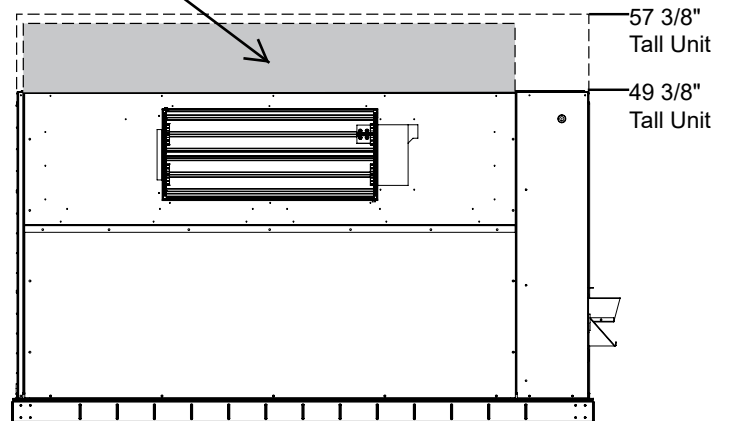

**Fig. 5 Land white W1 wire on W1 screw terminal**
8. Connect this white W1 wire to the W1 screw terminal on the unit's central terminal board. (See Fig. 5) Enough wire has been provided to route this wire with the panel resting next to the unit on the roof (ensure to protect the roof from panel rough edges.)